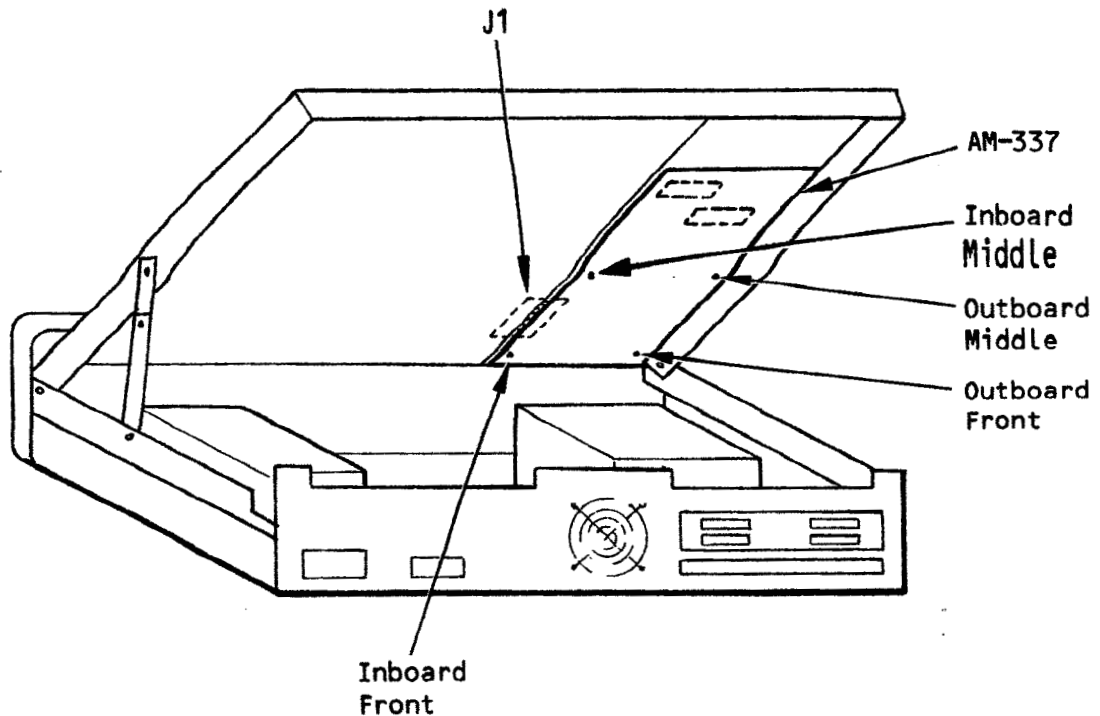

Figure 3. Fastening the AM-337 to the CPU Frame
5. If the CPU board uses a horizontal stiffener bar across the middle: insert a long nylon screw from underneath and into the inboard front standoff, next to the 50-pin connector (See Figure 3).
If the CPU board uses a horizontal stiffener bar across the middle: insert the short #6x 7/16 nylon screw through the hole and into the sidepiece standoff under the outboard middle of the AM-337 board (See Figure 3).